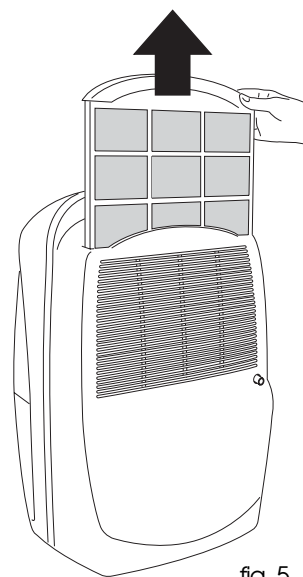

fig. 5
- To remove the air filter, extract by pulling (fig. 5).